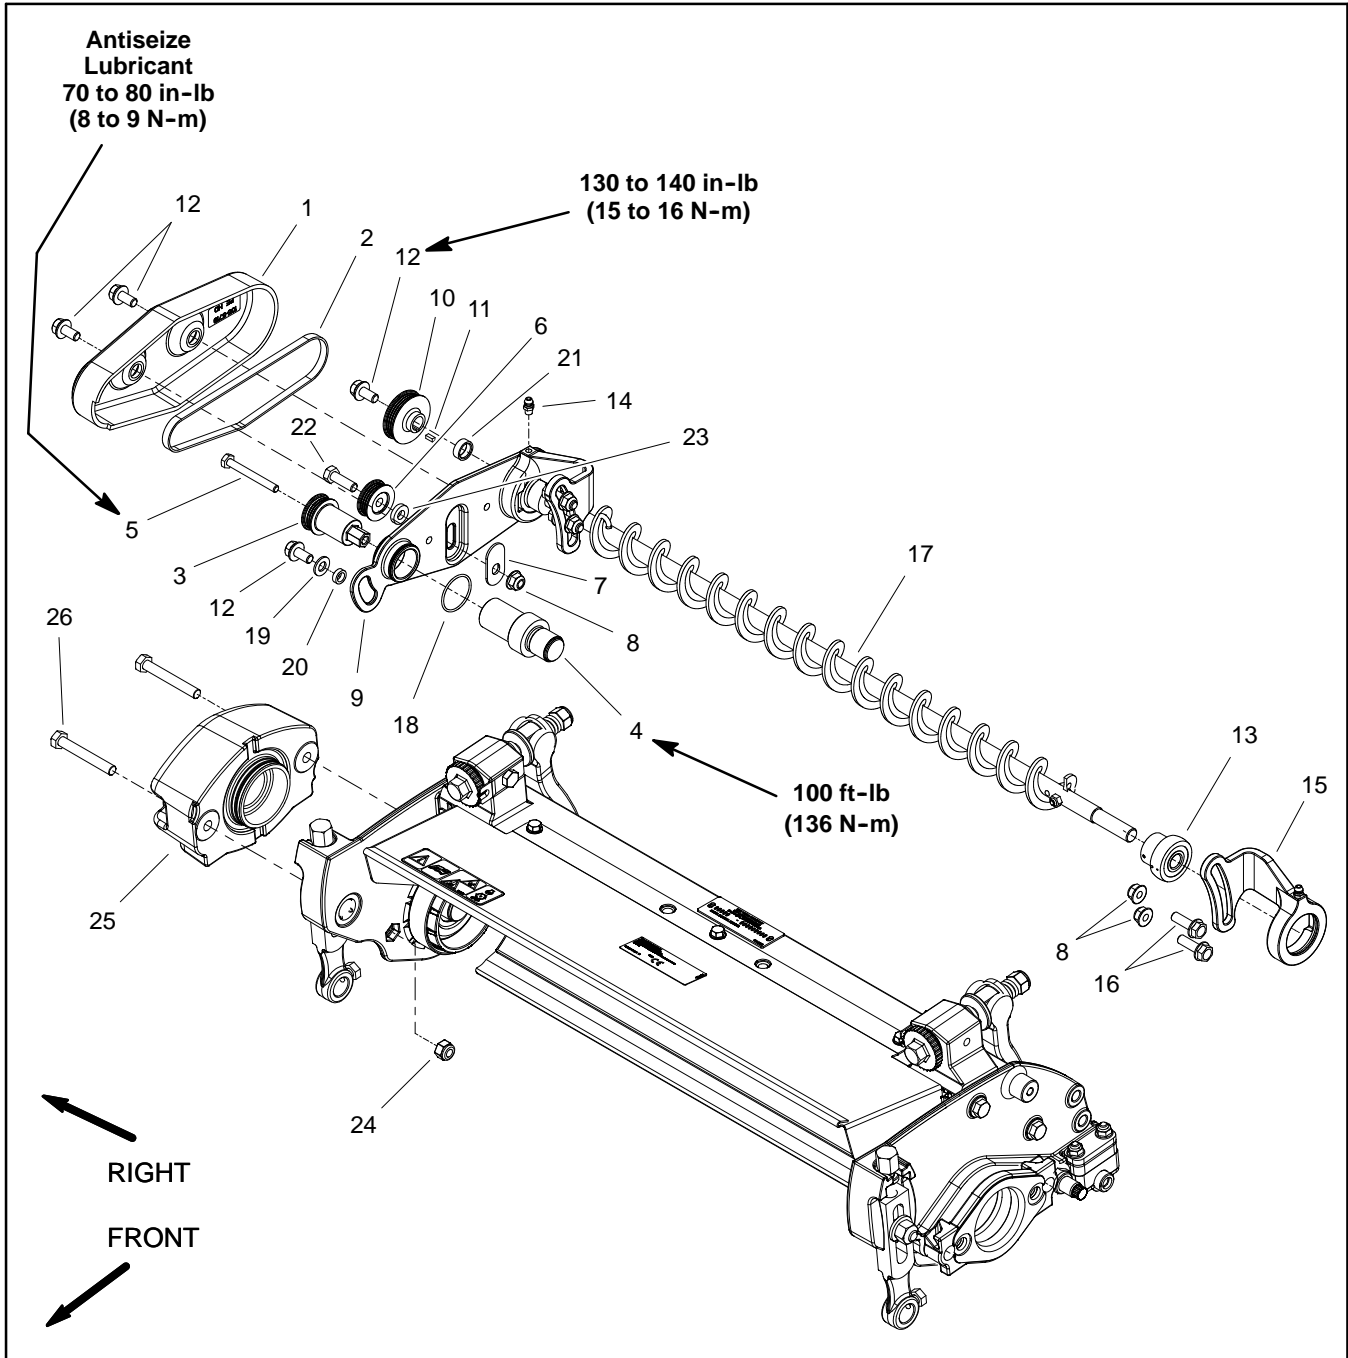
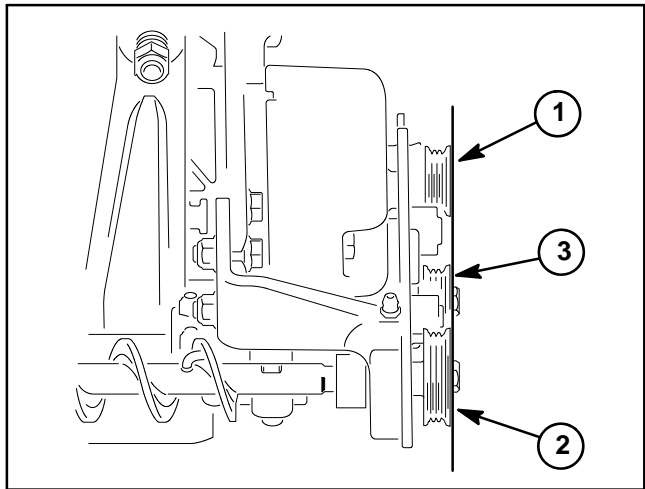
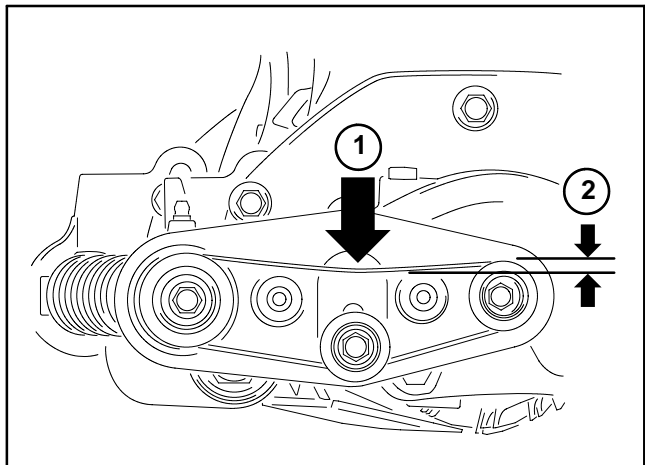

Figure 38
Figure 40
Figure 41
### Disassembly (Fig. 38)
3. To remove roller brush drive belt (item 2):
- A. Loosen cap screw (item 22) and flange nut (item 8) that secure idler pulley assembly (item 6) to drive plate.
4. Disassemble roller brush components as necessary using Figure 38 as a guide.
### Assembly (Fig. 38)
2. Assemble roller brush components using Figure 38 as a guide and the following assembly notes:
A. The screws (item 12) that are used to secure the cover (item 1), driven pulley (item 10) and drive plate (item 9) have a threadlock feature to prevent the screws from loosening. If original screws are being re-used during assembly, apply Loctite #242 (or equivalent) to threads of screws.
B. Apply a light coating of grease to O-ring (item 18) before installing on drive plate flange. Make sure that O-ring is correctly positioned in groove in flange.
C. Apply antiseize lubricant to threads of cap screw (item 5) that retains drive pulley (item 3). Torque cap screw from **70 to 80 in-lb (8 to 9 N-m)** to secure drive pulley to pulley driver.
D. Secure driven pulley (item 10) to brush shaft with threadlock screw (item 12). Torque screw from **130 to 140 in-lb (15 to 16 N-m)**.
E. Secure pulley driver (item 4) to cutting reel shaft with **100 ft-lb (136 N-m)** torque.
4. Check alignment of pulleys with a straight edge placed along the outer face of the pulleys (Fig. 40). The outer faces of the drive, driven and idler pulleys should be aligned. If necessary to align pulleys, loosen locking collars on brush bearings and move brush assembly until pulleys are aligned. Once pulleys are aligned, secure brush with bearing locking collars.
- 5. To install brush drive belt (item 2):
- A. Make sure that idler pulley (item 6) is loose on drive plate.
- A. Push down on the idler pulley and secure with cap screw (item 22) and flange nut (item 8). Make sure that cover plate (item 7) is covering the slot in the drive plate to prevent debris from entering the brush drive area.
- B. After idler pulley is secured, check that drive belt has approximately 1/4" (6 mm) deflection at the center of the belt with 2 lb (1 kg) of force applied to the belt (Fig. 41).